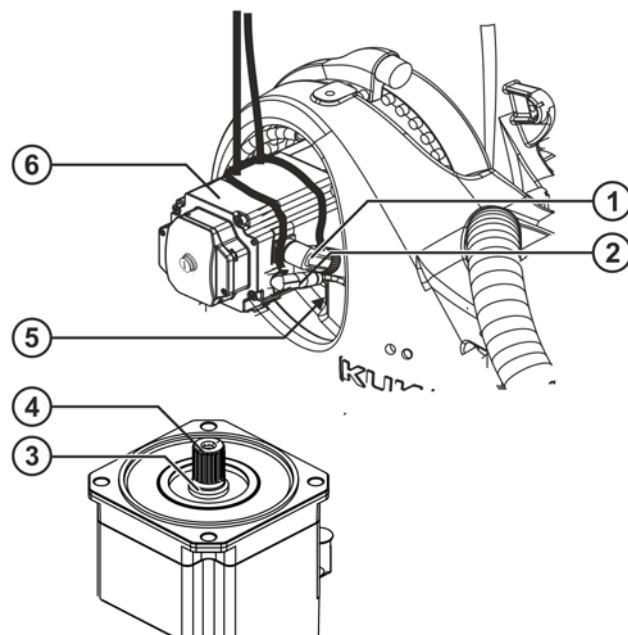

Fig. 11-5: Installing motor A2
1. Remove all protective coatings and oil from the new motor A2 (**>>> Fig. 11-5**).